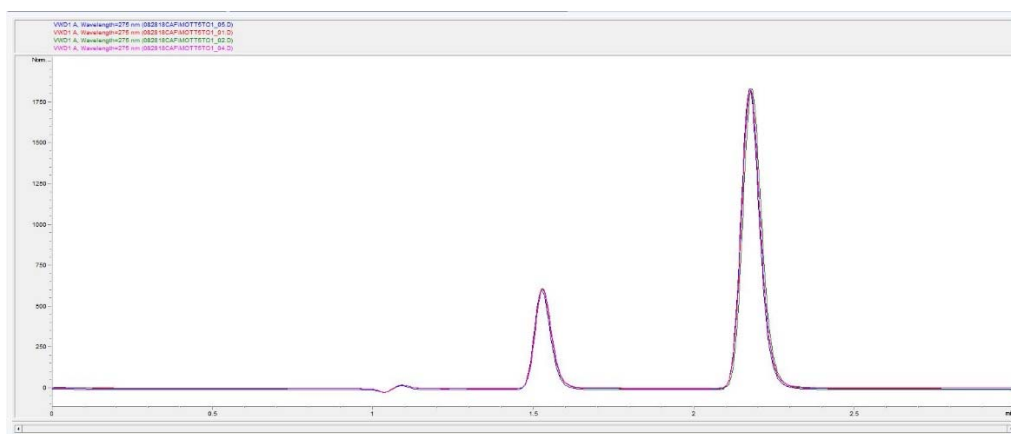

Figure 4. This figure is the data overlay of the caffeine acetaminophen analysis from the UV detector at 275 nm.
Peak retention was monitored upon successive injections for flow stability. It was found that upon four (4) consecutive injections, the caffeine and acetaminophen peaks had a 0.11% RSD and 0.11% RSD respectively. The USP requirements of RSD for replicated injections is no more than 2.0% variation. The results of the testing can be found in **Figure 4**, where peak resolution was 10.3 on average.